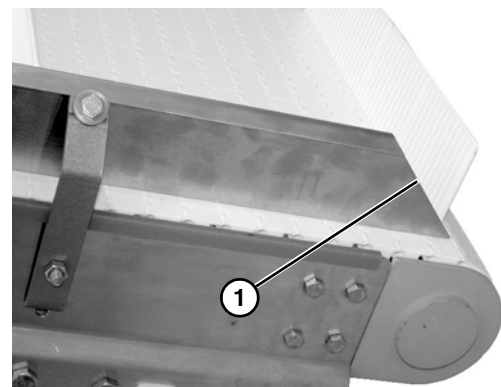

**Figure 19**
3. Attach guide (**Figure 19, item 1**) to the mounting brackets with hex bolts and spacers (**Figure 19, item 2**). Hand tighten only at this time.
4. Ensure that nose of bracket slips under the lip of guide (**Figure 19, item 3**).